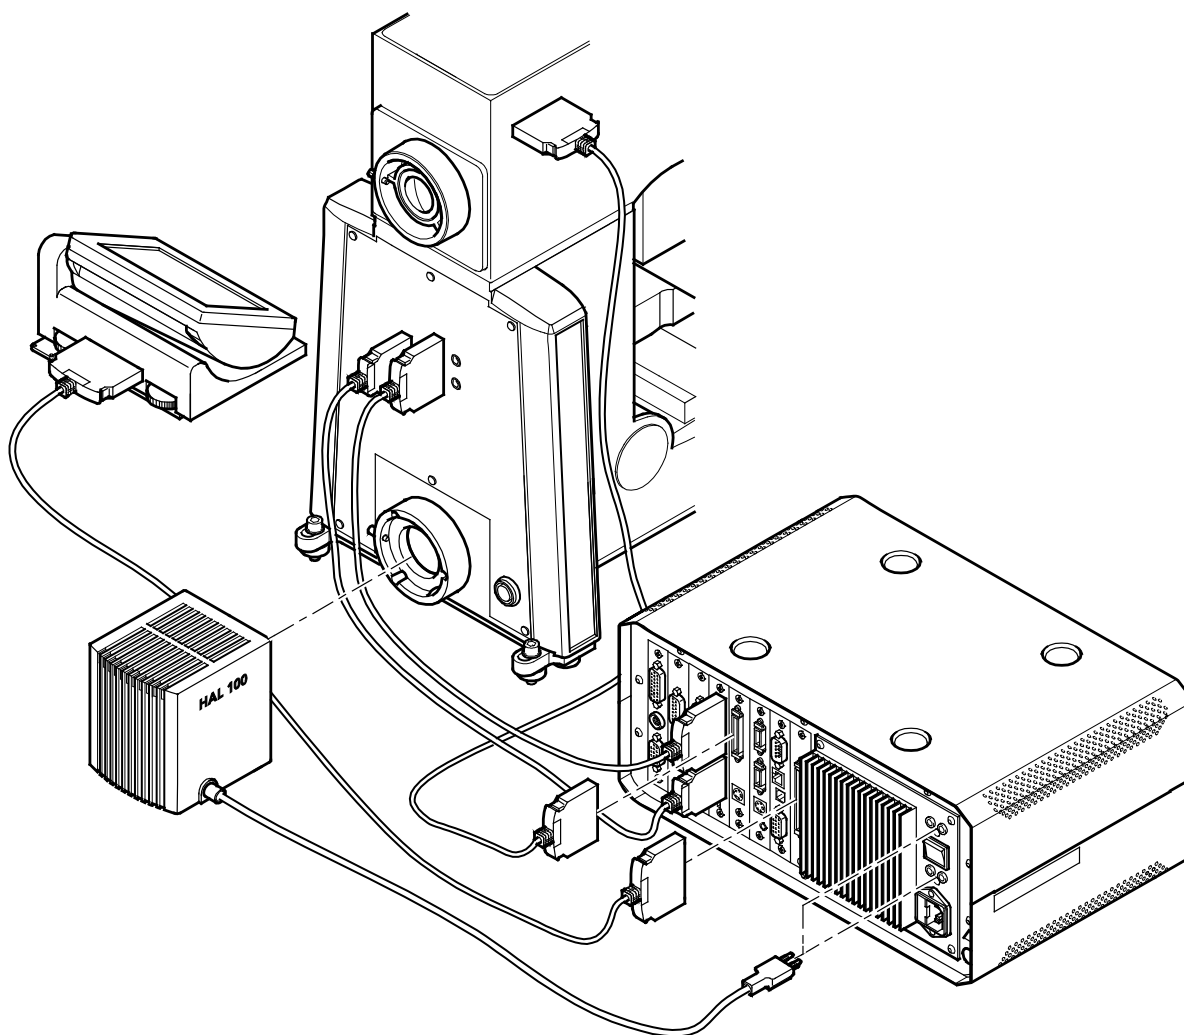

Figure 3-29 Connecting the Axio Examiner mot.
- Connect both sockets at the lower microscope part to the sockets (Figure 3-29/4 and 5) at the examiner control unit.
- Connect the sockets at the upper microscope part to the sockets (Figure 3-29/2) at the examiner control unit.
- If required, connect the docking station to the examiner control unit (Figure 3-29/3).